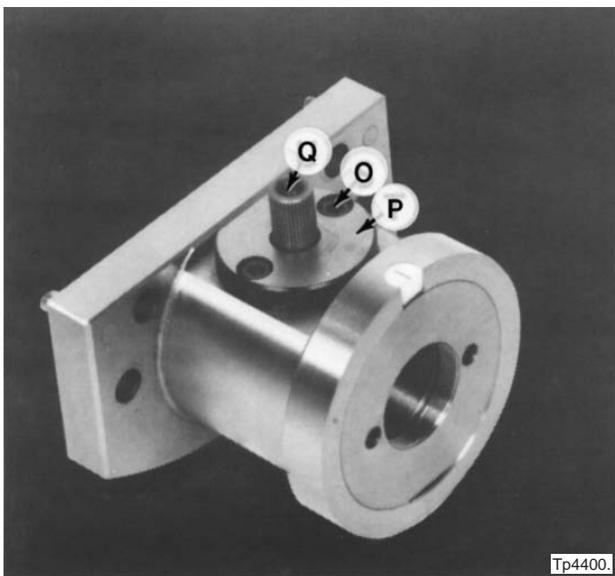

Figure 2.18 - Eccentric for Handle
- l) Remove two screws "O", eccentric support "P", and eccentric shaft "Q", Figure 2.18 .
- d) Coat the eccentric end of shaft "Q", Figure 2.18, with Die Makers Grease; then replace shaft "Q" as shown.